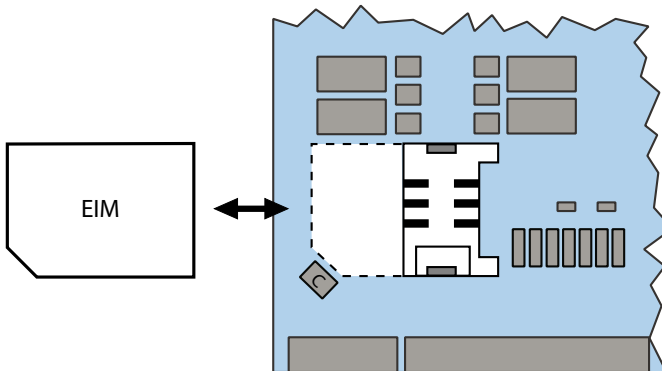

Fig. 82 EIM card
4. Push the new EIM card under the guide tongues and through to the stop in the chip-card holder. Make sure the contacts of the EIM card are facing downwards and the bevelled edge of the EIM card is pointing towards the edge of the call manager card and not against the capacitor (C) (see Fig. 82).